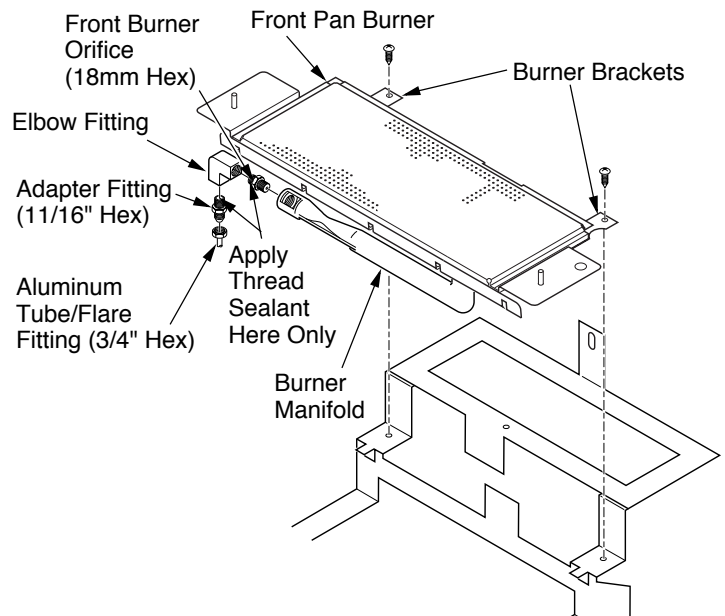

Figure 4 - Removing/Replacing Pan Burner Orifice (Tube Burner Not Shown for Clarity)
3. Inside firebox, locate two small burner hold down brackets on rear of pan burner. Remove screws with phillips screwdriver and carefully lift pan burner assembly up and out of firebox (Do not force the assembly during removal.) See Figure 4.
2. Using screws removed in step 3 of *Pan Burner Orifice Conversion*, page 2, reattach two small burner hold down brackets on rear of pan burner to grate base. See Figure 4, page 2.